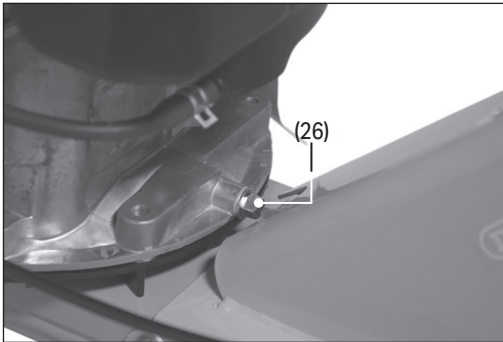

Fig. 23
**Important:** The engine oil should be changed after every 60 hours. Drain the oil before the engine has completely cooled to allow faster and more thorough drainage (Fig. 23).